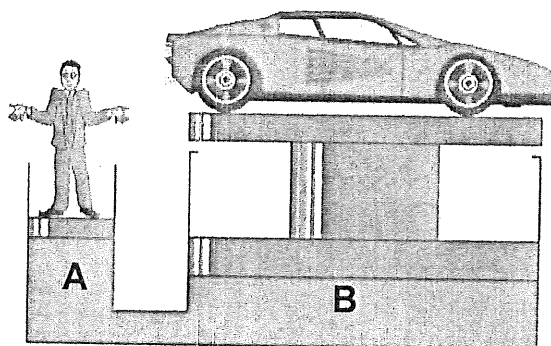

Figure 3
- c) By referring to Figure 3, determine the weight of the car in N if the area of the piston A is 600 mm^2 , the area of piston B is $10\,500 \text{ mm}^2$ and the force applied on piston A is 500 N . (4 marks)